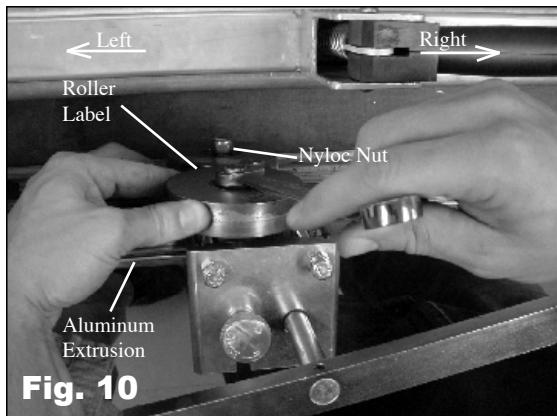

Fig. 10
Step 10: Visually verify that the amount of gap between the housing cutout and the aluminum extrusion is approximately equal on the two sides shown in Fig. 10. If the gap is not equal, open the rollers by turning the adjusting knob and loosen the adjusting screws on the wide side of the gap approximately $\frac{1}{4}$ to $\frac{1}{2}$ turn. Next take the adjusting screws on the opposite side to finger tight. Repeat this process until the amount of gap on each side of the extrusion is approximately equal.
Step 10: To finish, place the rollers back onto the roller shafts and pull them up against the aluminum extrusion. Make sure that the labels on the rollers are facing away from the aluminum extrusion. The rollers are cut on a taper. The larger diameter of the roller should be facing out (the side with the label) and the smaller diameter of the roller should be against the extrusion. While looking in a downward direction at the top of the head, push the roller all the way to the right when tightening the Nyloc hex nut. See Fig. 10. The Nyloc nut must be tightened until the roller makes light contact with the extrusion while spinning it. Next, the Nyloc nut needs to be loosened $\frac{1}{4}$ to $\frac{1}{2}$ turn to allow free rotation of the roller. Repeat this procedure for both of the rollers. The Roller Lacer is now ready for service.